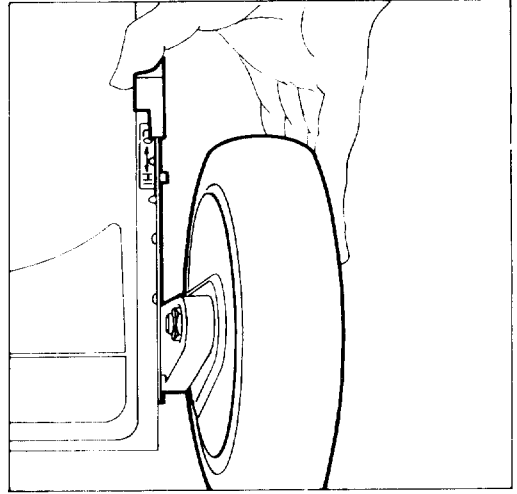

Figure 9
2. For easier adjustment, lift housing up so wheel is off ground. Squeeze adjusting lever toward wheel (Fig. 9) and move them to desired setting. Assure pin on adjusting lever engages notch in housing. Adjust all wheels to the same setting.